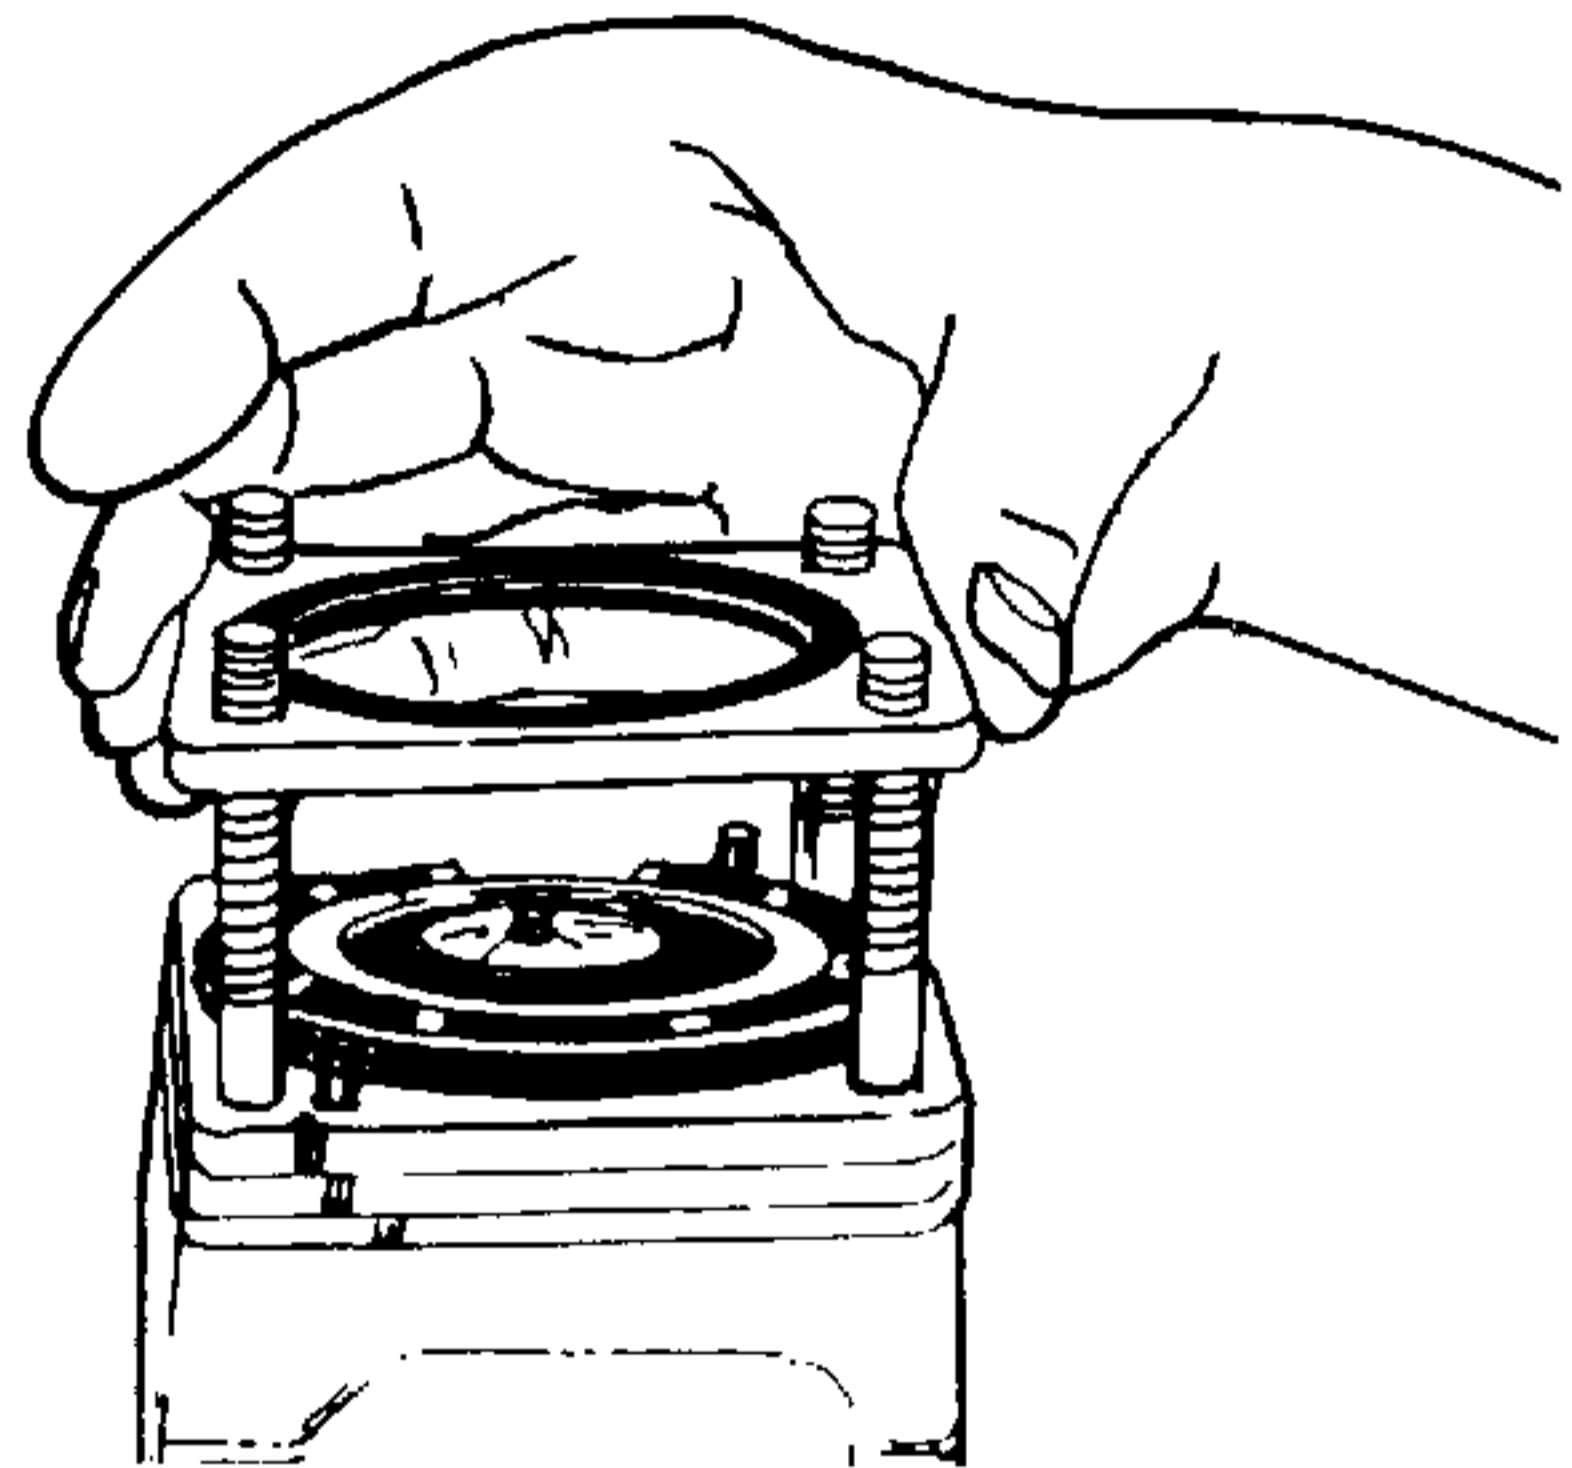

Figure 4-11. Removing Valve Ring.
10. Remove valve ring (part of 12). Discard the two seal rings (4). See Figures 4-11 and 4-12. The valve ring should be free of nicks and scoring.